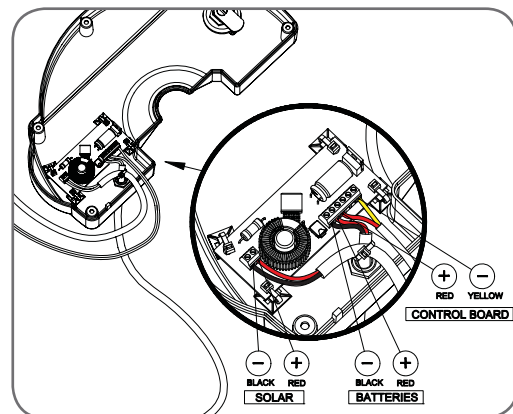

Fig 24
2. Unscrew and remove the four-wire harness from the Charger Board. Replace with the two-wire (red/yellow) harness, connecting wires as shown (Fig. 24).
4. Connect the **red wire** to the Charger Board's "**SOLAR+**" connector, and the **black wire** to the "**-SOLAR**" connector (Fig. 24).